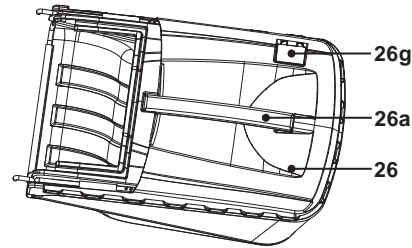

Fig. 18
2. When the hatch (26g) is closed, the grass catcher (26) is full and must be emptied (Fig. 18).